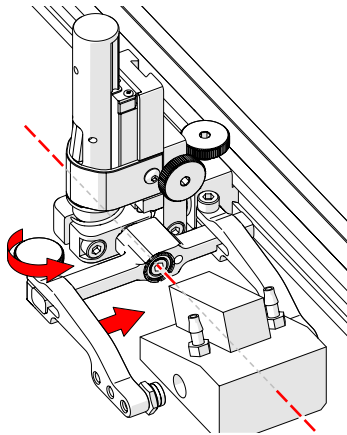

Fig. 109 - Adjust outer arm
5. Loosen the probe holder arm adjustment knob (Fig. 109) and slide the probe holder arm along the yoke pinching the wedge in place.